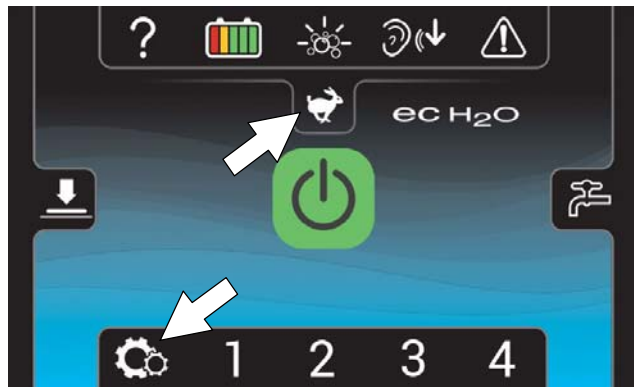

FIG. 171
**Supervisor Mode** - Capable of machine operation with full use of all controls, along with configuring permissions and restrictions for the operator mode and login capability. The supervisor mode home screen provides access to the machine settings button and to the maximum scrub speed button (Figure 171).